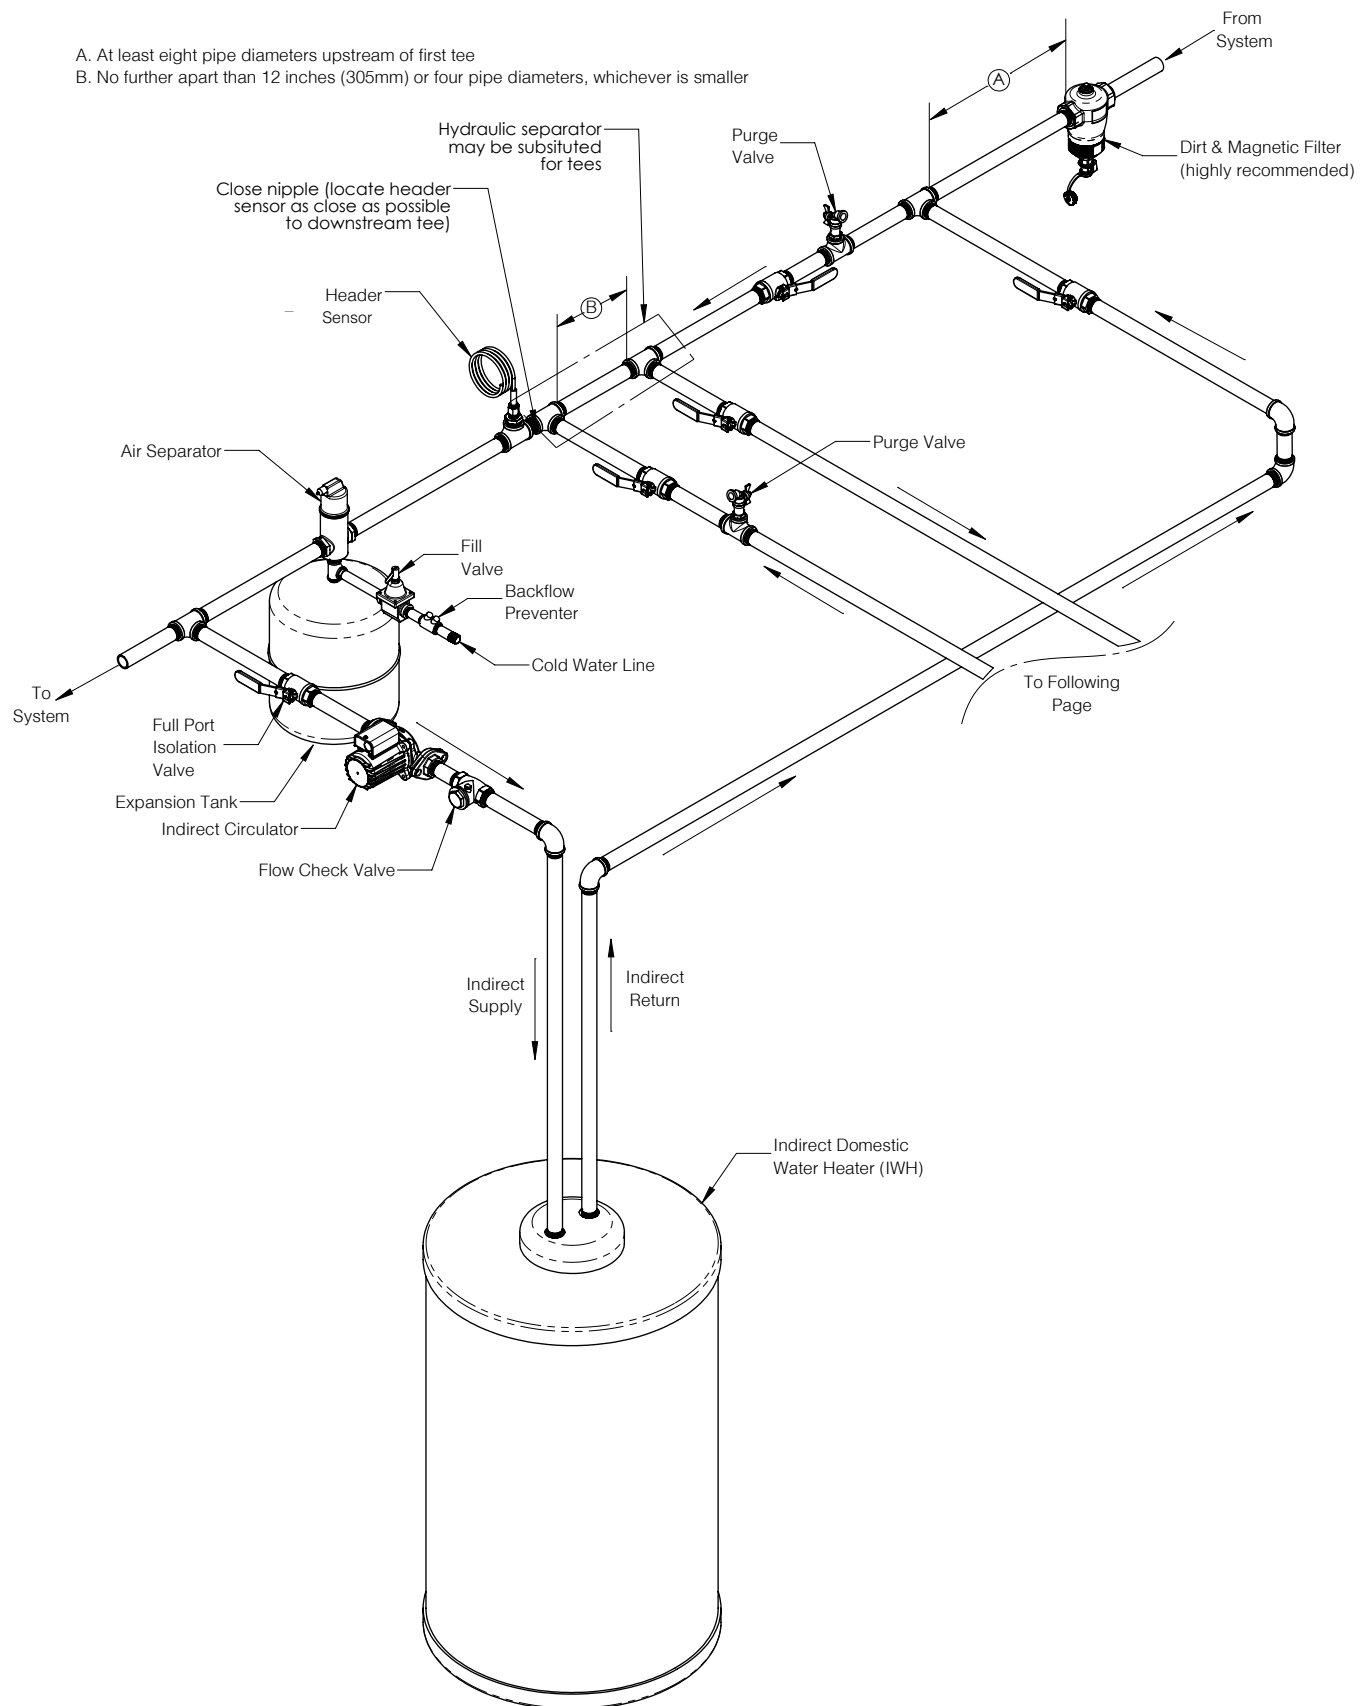

Figure 3-2: Multiple Boiler Water Piping w/Primary Piped Indirect Water Heater
1. Multiple boiler heating systems piping is shown in Figure 3-2.
A header sensor must be installed and wired to the Sequencer Master “enabled” control. The header sensor is installed on the common system piping and provides blended temperature information to the Sequencer Master. Refer to piping diagram Figure 3-2 for installation location and Figure 3-7 or 3-8 for installation detail.
NOTICE: The “Strap-On” type sensor must be mounted to the top side of a horizontal section of pipe as indicated in Figure 3-2.